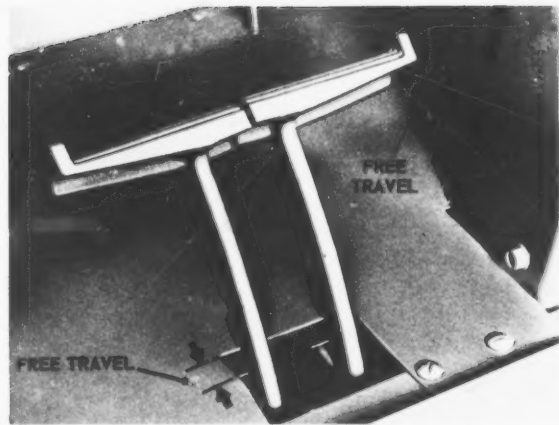

Fig. 36—Two Methods Of Measuring Pedal Free Travel
1. Adjust brake pedal free travel (Fig. 36) at either the pedal or the brake housing, whichever is recommended in your operator's manual (see Figs. 30, 31 and 32).